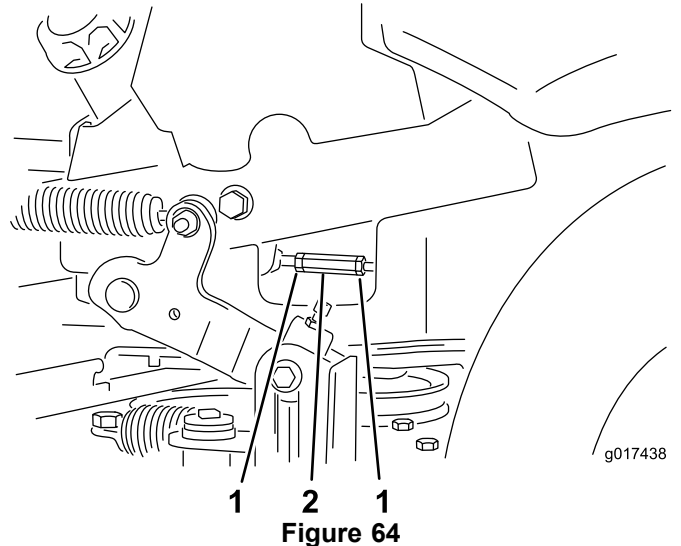

Figure 64
- Bring the motion control levers into the neutral position. Adjust the pump control rods by loosening the two jam nuts and rotating the adjustment nut in the appropriate direction until the wheels slightly creep in reverse (Figure 64). Move the motion control levers to the reverse position and while applying slight pressure to the lever allow the reverse indicator springs to bring the levers back to neutral. The wheels must stop turning or slightly creep in reverse.
- Tighten the two jam nuts against the adjustment nut (Figure 64).